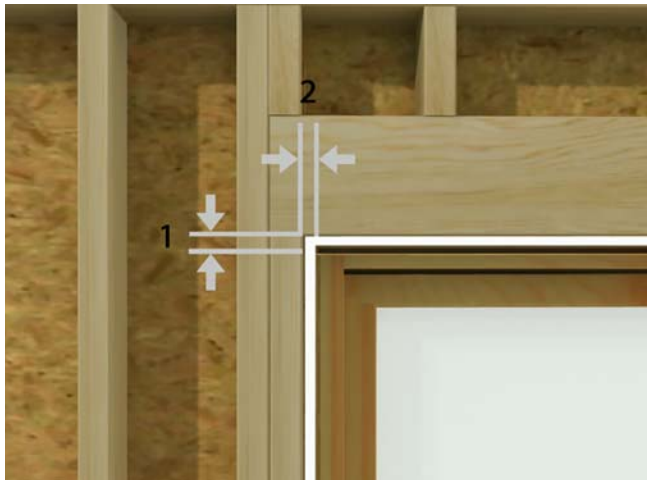

Figure 1
1. Rough openings (RO) should be 1" (25) wider than the outside measurement of the frame and 1/2" (13) higher. (When framing rough opening, care should be taken to ensure the sill plate is level and the opening is square, straight and plumb.) See Figure 1.